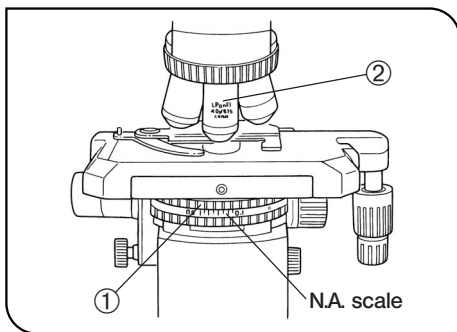

Fig. 27
Set the condenser numerical aperture scale to about 80% of the NA value ② of the respective objective. (Fig. 27)